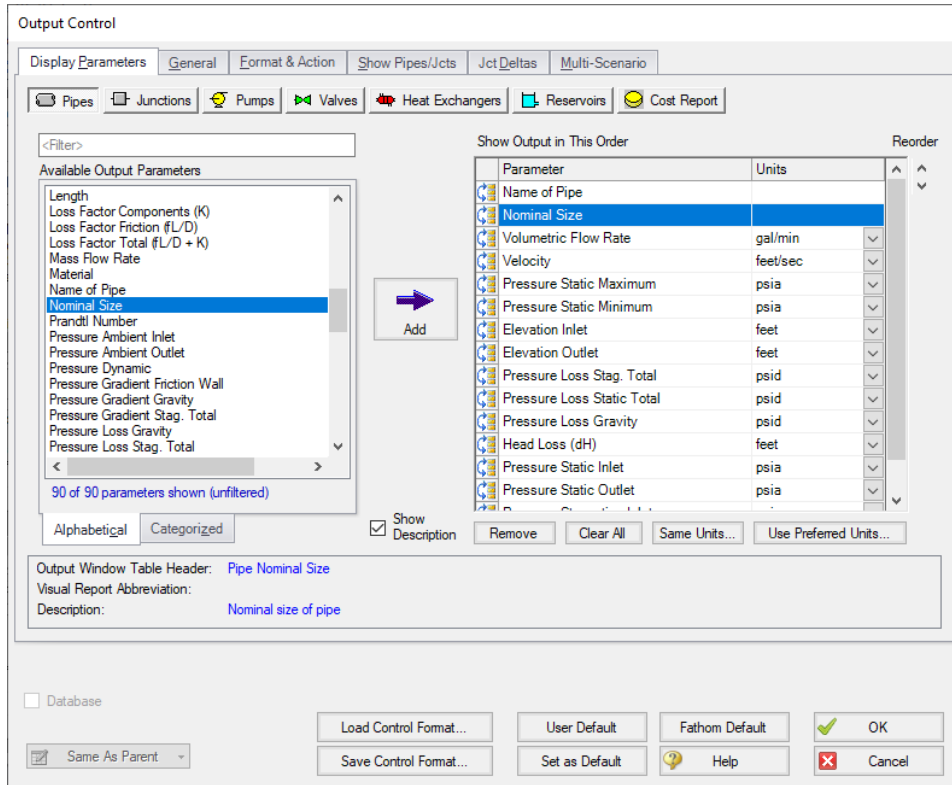

Figure 2: Output Control Window
- Use the Reorder buttons (in the upper right) to move the Nominal Size up so that it becomes the second parameter in the list (see Figure 2).